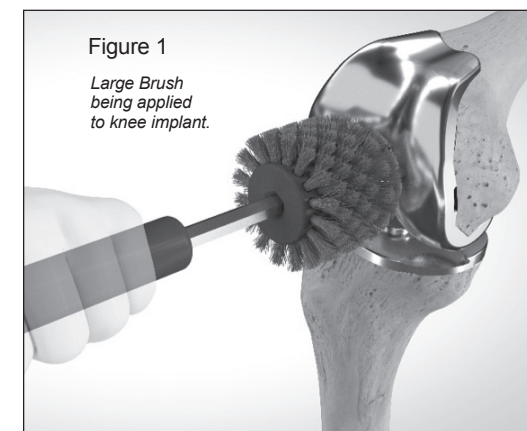

Figure 1
3. Debride by applying the rotating brush brush head to the wound, soft tissue, bone, or implant as shown in Figure 1.